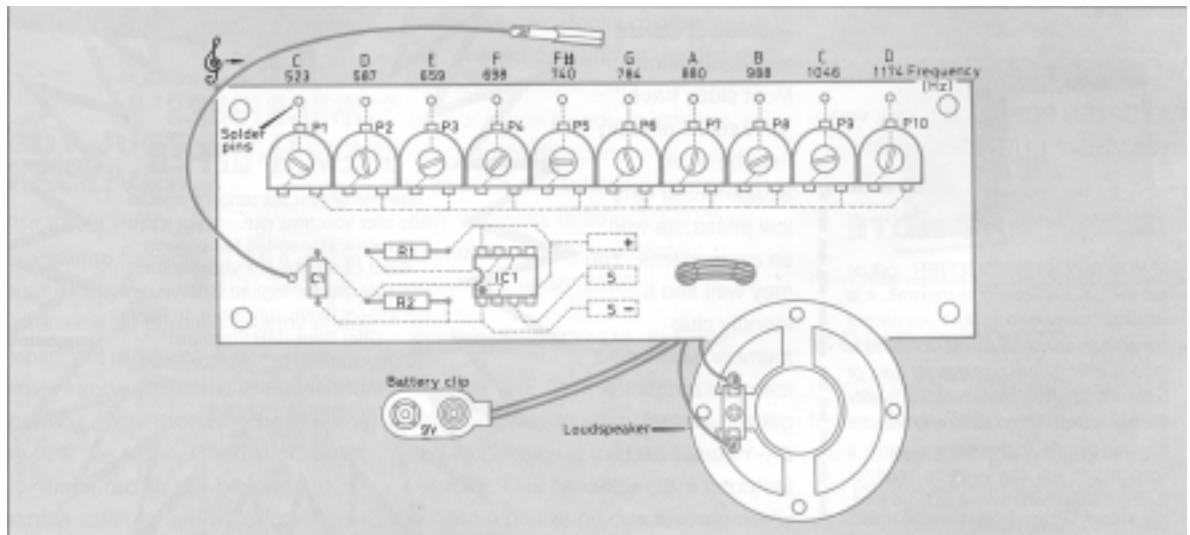
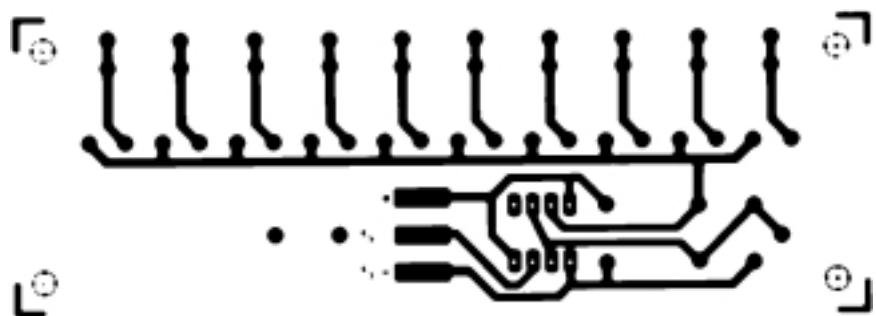
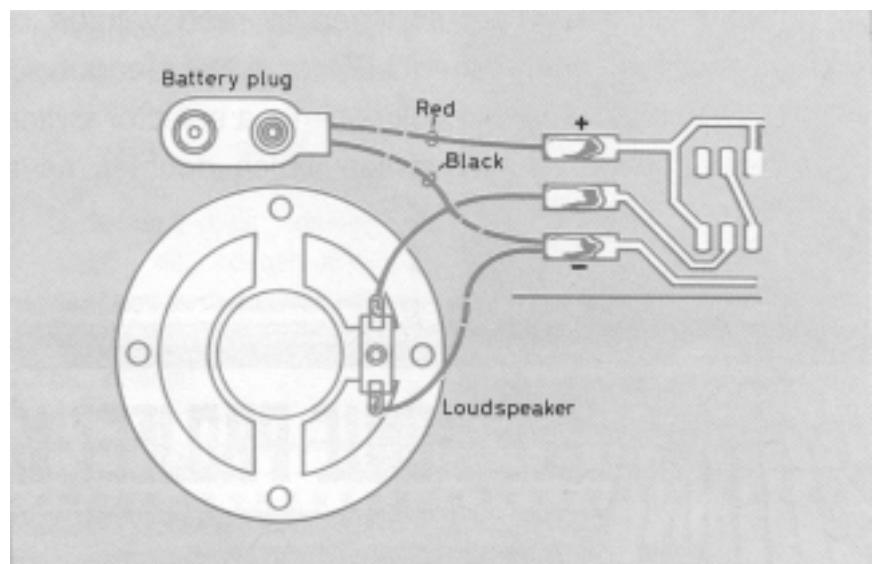

Figure 2 Position of components on the printed circuit board (PCB)
Figure 3 The connections
Figure 4 Battery plug and loudspeaker connections
- (a) Using a PCB. The job is very simple. The placement of components on the unsoldered side of the board is shown in Figure 2 and the design on the copper track is illustrated in Figure 3. Put each component, in turn, on the board, making sure that it lies flat on the board with its tags or wires going cleanly through the holes provided for it; then, solder the wires to the board, cropping them before or after the soldering,
depending on your preference. If you choose to use a holder for your integrated circuit (highly recommended if your soldering is less than perfect), make sure that the end with a notch in it faces R1 and R2, as shown in Figure 2. Solder the two leads to the speaker to the tabs marked S (either way round), having looped them through the two holes to the right of the tabs in Figure 2. Looping them through the holes acts as a strain relief, ensuring that the soldered joints are not subjected to pulling and bending as you move the wires about. Do the same with the battery leads, the red lead going to the + tab and the negative lead to the - tab (which also has one speaker lead already attached to it). Figure 4 shows this in detail. Treat the loudspeaker with care – the cone is quite fragile and must not be touched.
- (b) Without a PCB. This is more difficult, and you may need to enlist some help. Using some matrix board (such as Veroboard) is probably the best way of replacing the PCB. You could arrange your circuit in exactly the same way as in the PCB in Figure 3, using wires to replace the copper track.
The keyboard is a row of solder pins along the rear edge of the PCB, one for each note covering the range shown in Figure 2. A flying lead with a small spade on it is provided to touch any of the pins in turn, producing any one of ten different notes.